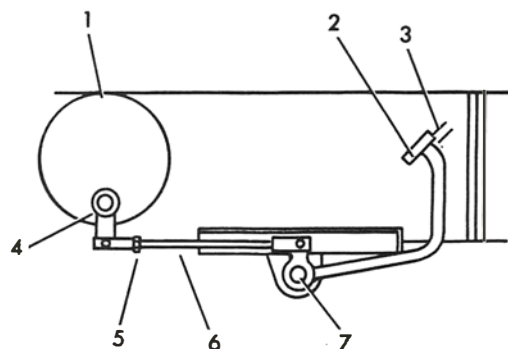

Figure 23
1. Loosen the lock nut on the brake rod assembly, see Figure 23.